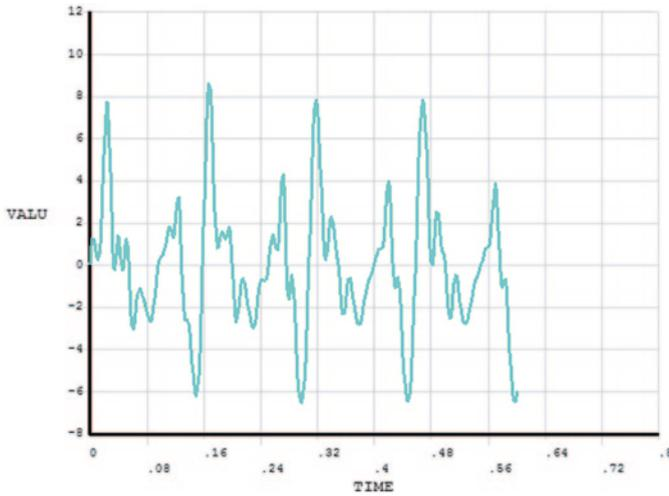

Fig. 8.101 Time variation of the moment at the *left* joint (node 1)
- The plot appears in the *Graphics Window*, as shown in Fig. 8.101.